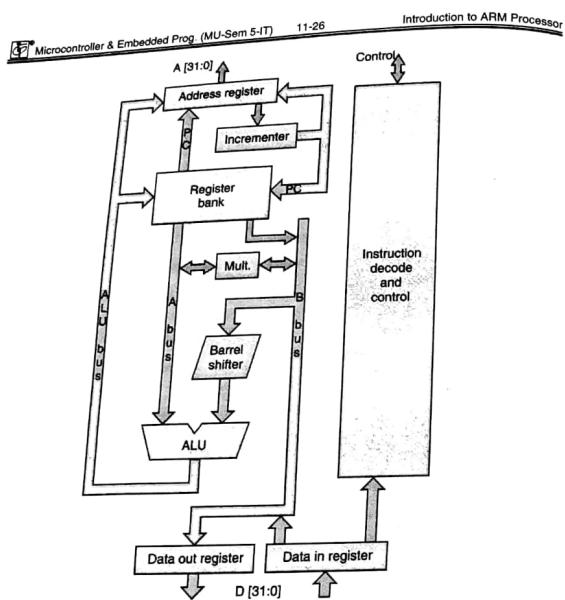

Fig. 11.10.3 : Organization of 3-stage pipelining in ARM
- Fig 11.10.3 shows the implementation of the three stage pipelining in ARM. In the figure, the flow of the instruction shows the three stages of pipelining. The instruction is first fetched by the PC (at the top) giving address to the address register and is incremented using the incrementer, so that the PC points to the next instruction. The instruction is fetched through the data bus (at the bottom) and is given to the Instruction Decode and Control unit. This unit decodes the instruction, which is the second stage of the pipeline and then the instruction is executed by the ALU, multiplier and barrel shifter using the registers from the register bank.